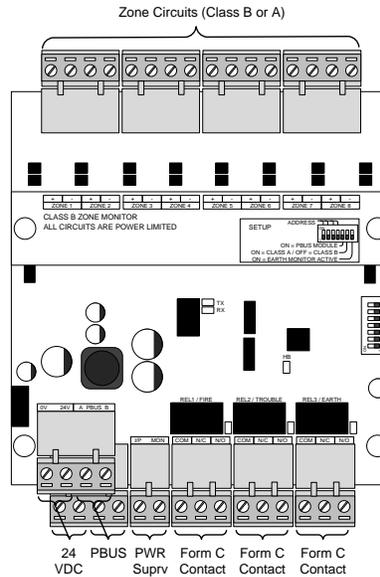

Figure 66 - NX-EM-CZM Module
The NX-EM-CZM is an SHIELD conventional zone module that can be monitored and controlled by an NEO Integrated Audio Intelligent Fire Alarm Control Panel (see figure 66). The NX-EM-CZM, Conventional Zone Module, provides monitoring for up to eight (8) Class B conventional zones, with programmable end-of-line, or four (4) Class A conventional zones. In addition, each NX-EM-CZM module has three (3) field programmable Form C relay contacts defaulted to activate on common alarm. Up to sixteen (16) NX-EM-CZM modules can be supported by a single NEO Integrated Audio Intelligent Fire Alarm Control Panel. By supporting sixteen (16) NX-EM-CZM modules, an NEO Integrated Audio Intelligent Fire Alarm Control Panel can accommodate up to 128 Class B (64 Class A) conventional zones and 48 (Form C) field programmable relay contact outputs.